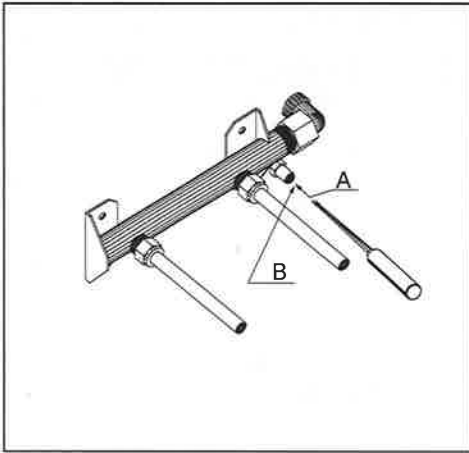

FIG. 1
3.1 CONTRÔLE DE LA PRESSION D'ALIMENTATION (fig. 1)